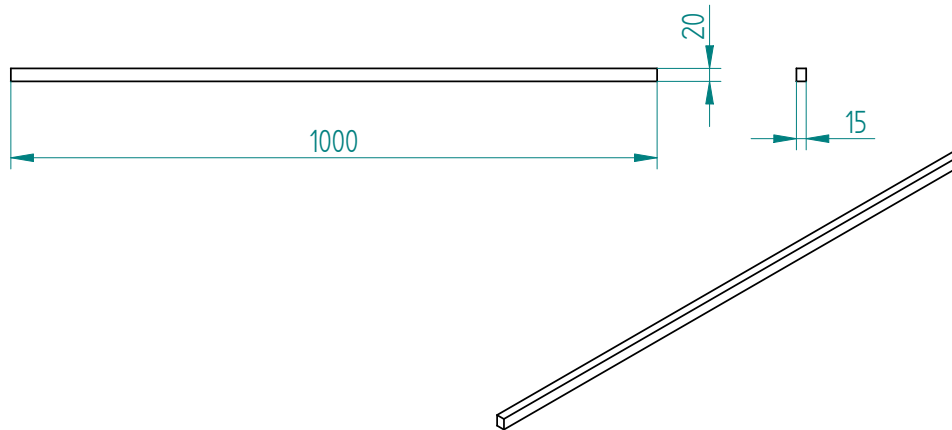

Figure 3.8: Normalized part : **rectangular-wooden-list** for **perpendicularator** tool
**Drawing** See figure 3.8, page 88